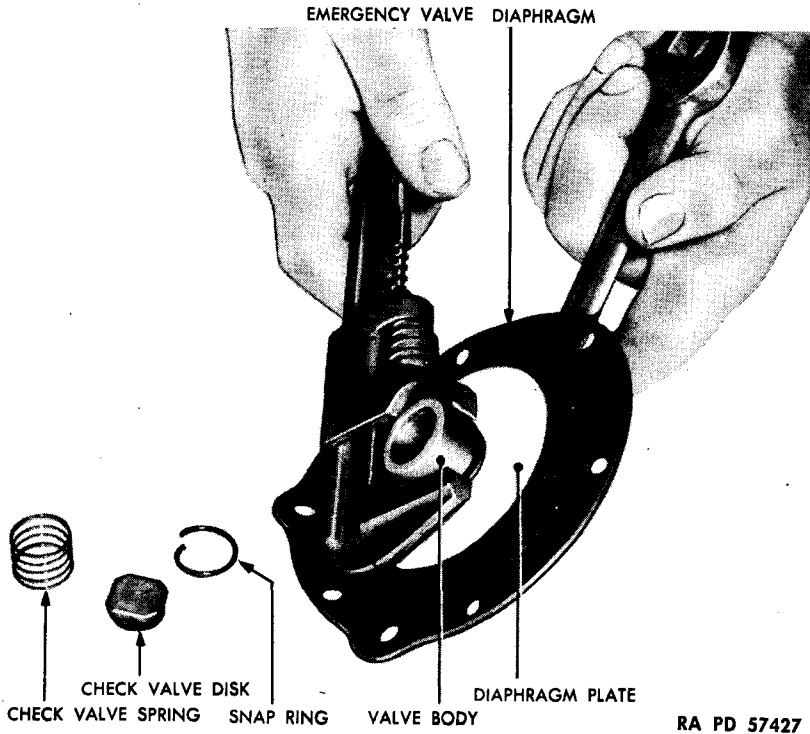

Figure 10 — Disassembly of Check Valve Body and Diaphragm
a. **Disassembly** (fig. 10). Depress disk with thumb. Pry out snap ring holding check valve disk in check valve body. Lift out check valve disk and check valve spring. With two wrenches, remove nut from valve body. Separate diaphragm plates from diaphragm. **CAUTION:** Do not attempt to remove nut from valve body with assembly in vise. Vise jaws will score face of valve body.